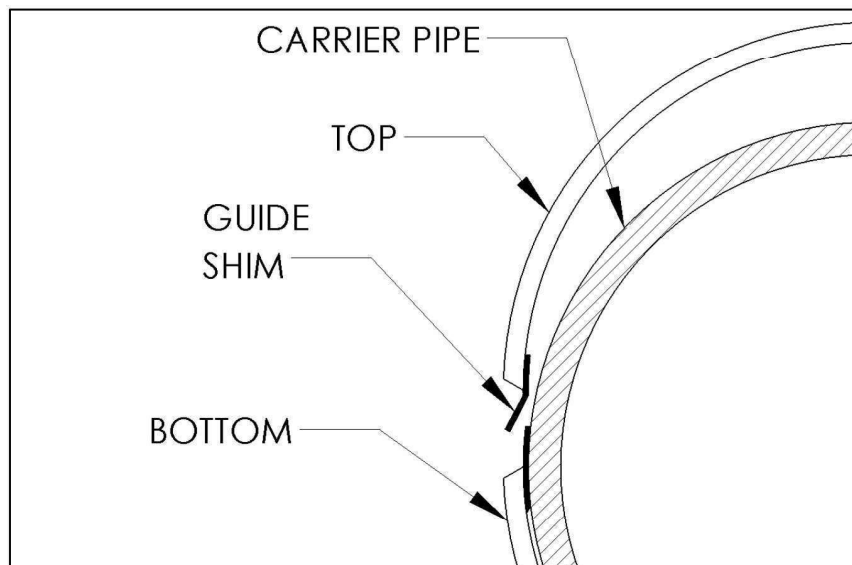

Figure 6
6. Guide the top half over the pipe and around the backing strips. Guide shims, as shown in Figure 6, or other tools such as screwdrivers or prybars may help guide the top half over the backing strips.